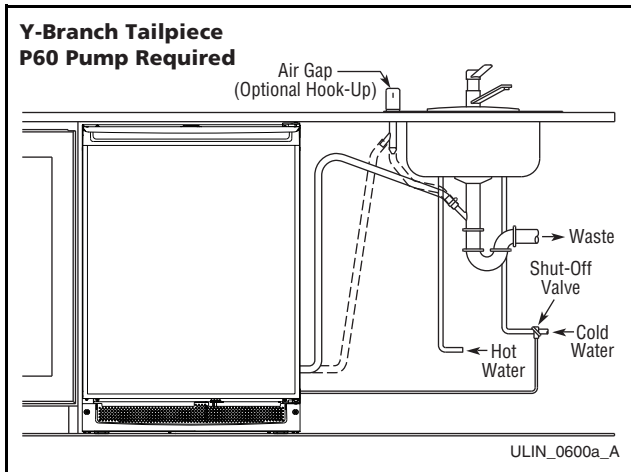

Figure 73
10. Once pushed completely into the opening finish routing the drain tubing to the desired location. Common installations use a floor drain, standpipe, garbage disposal, or Y-branch tailpiece-type drain connection (**Figure 73 - 76**). After the installation is complete, check the unit to ensure it is level both side to side and front to back. For disposal connections an optional adapter may be required (included with the kit) to adapt from the 7/8" connection.